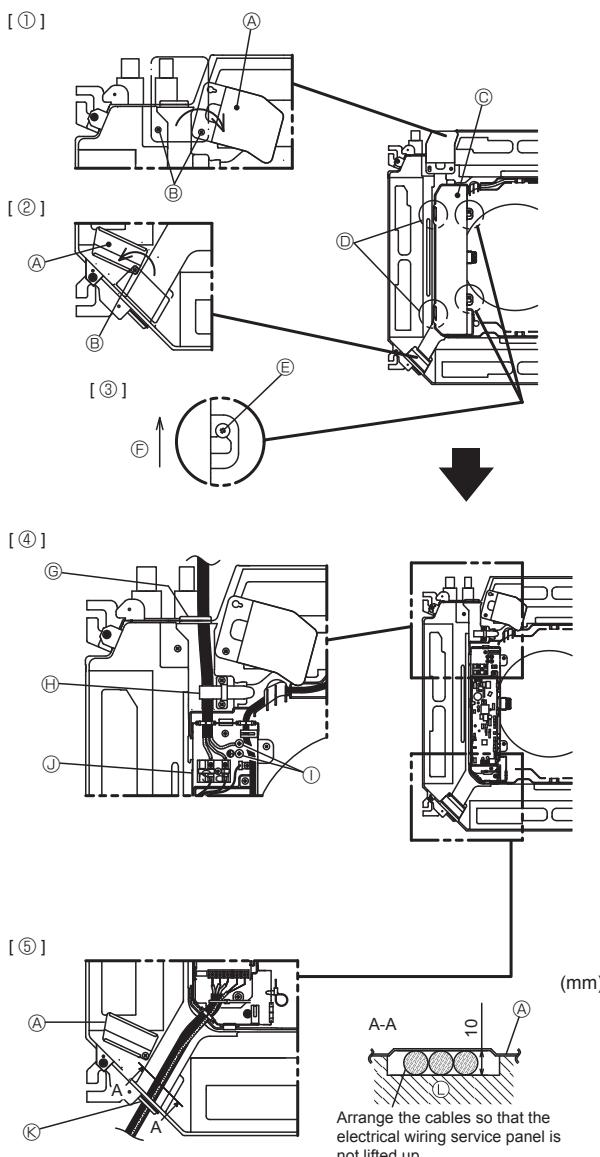
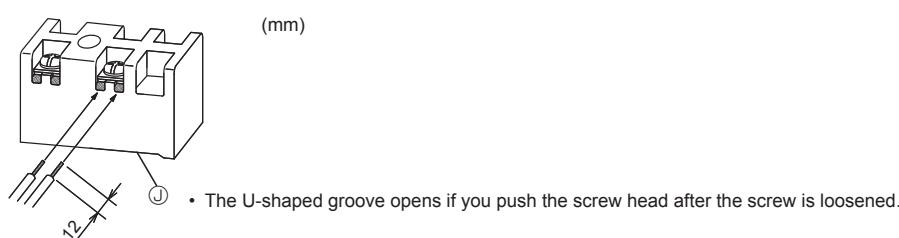
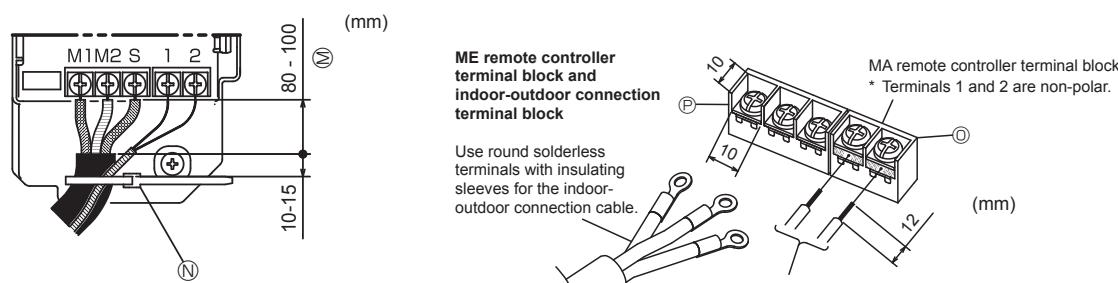

Fig. 5-1
Fig. 5-2
Fig. 5-3
5.1. Indoor unit (Fig. 5-1)
- Loosen the two screws securing the electrical wiring service panel, and then turn the electrical wiring service panel. [Fig. 5-1 ①]
- Loosen the one screw securing the electrical wiring service panel at the cable entry (remote controller cable and indoor-outdoor connection cable), and then turn the service panel to the position shown in the diagram. [Fig. 5-1 ②]
- Loosen the two screws securing the electrical box cover, then slide the electrical box cover. [Fig. 5-1 ③]
- Pass and wire the power cable and the earth cable through the wiring entries given in the diagram. [Fig. 5-1 ④]
- Pass and wire the remote controller cable and the indoor - outdoor connection cable through the wiring entries given in the diagram. [Fig. 5-1 ⑤, Fig. 5-2, Fig. 5-3]